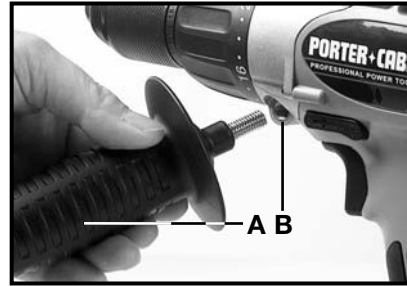

Fig. 5
Model 977 is shipped with a side handle (A) Fig. 5 to provide additional control and support during high torque drilling and driving operations. To use, screw the side handle (A) into the threaded hole (B) on either side of the tool.